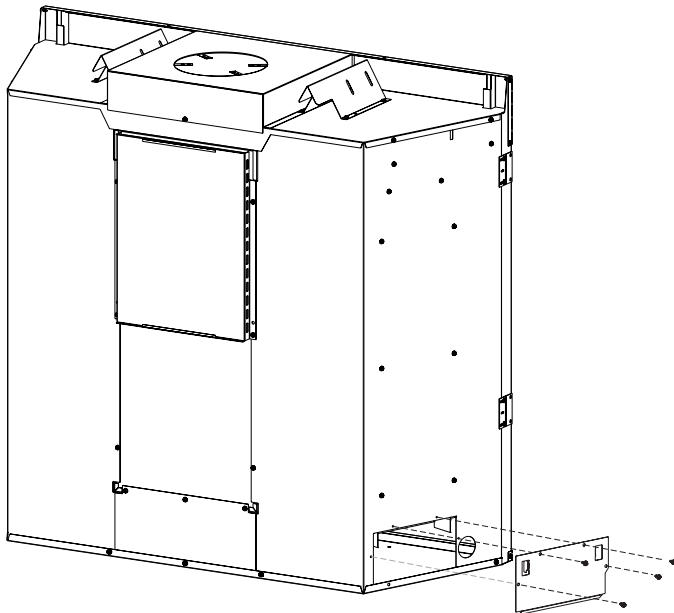

Figure 1
1. With power completely turned off, remove plate and four screws as shown. **See Figure 1.**